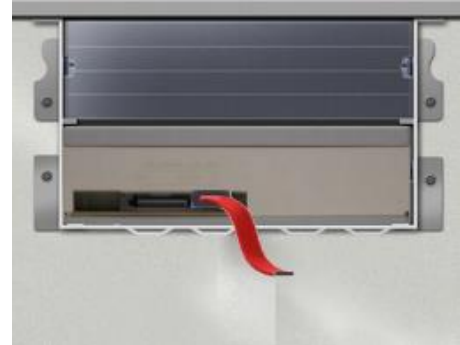

FIGURE 49: TESTOUT CORP. (2020, JANUARY 14). TESTOUT PC PRO (SECTION 14.1). RETRIEVED FROM [HTTP://WWW.TESTOUT.COM](http://www.testout.com)
- 7.2.1.** First, connect the 7-Pin SATA data cable to the Optical Drive (See Fig. 49). The port on the Optical Drive is L-shaped, matching the opening in the end of the cable. Make sure to align the keyed end of the cable to the Optical Drive port. If it does not go in, do not try to press hard or it may damage the component. Check the alignment and smoothly push the cable in.